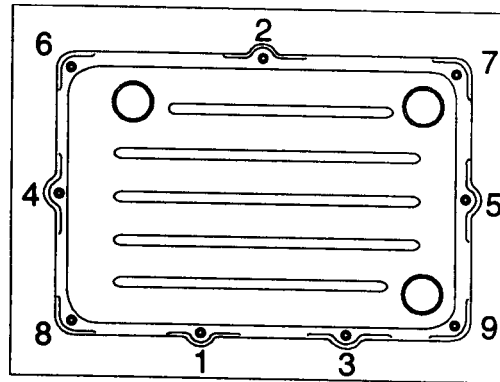

Figure 8.65 - Oil Pan Tightening Sequence
6. Fit the oil pan assembly to the transmission case and tighten the securing bolts to specification and sequence (refer to figure 8.65). Do not over torque.